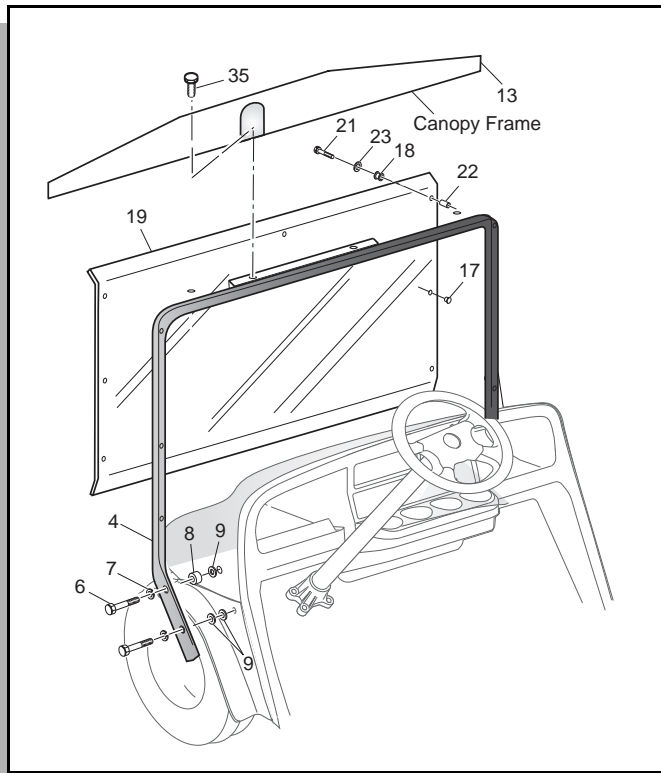

Fig. 2 Front Strut, Windshield and Mirror Installation
Position front strut (item 4) as shown (Ref Fig. 2 on page 3) and secure to vehicle at each side of the cowl with four 5/16 - 18 X 2 1/2" bolts (item 6), four 5/16" lock washers (item 7), two spacers (item 8) and six 3/8" flat washers (item 9). Secure top of braces with two 5/16 - 18 X 2 1/4" bolts (item 10), four 5/16" lock washers (item 11) and two 5/16 - 18 lock nuts (item 12). Attach canopy frame mounting plate (item 13) to front strut using two 1/4 - 20 X 1 1/2" bolts, four 1/4" flat washers as shown. Tighten hardware firmly.
Insert two bumpers (item 17) into holes in windshield (item 19) as shown (Ref Fig. 2 on page 3) as shown. Secure windshield and mirror brackets to front strut with four 1/4 - 20 X 1 3/4" bolts (item 21), four spacers (item 22), four 1/4" washers (item 23) Tighten hardware firmly.